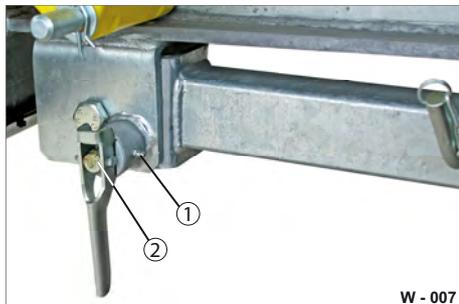

Fig. 7 Tilt feet lubrication points
- ▶ Clean the grease nipple (Fig. 7/1) with a clean, dry cloth.
- ▶ Remove objects such as blades of grass, branches, etc. from the bearing positions (Fig. 7/2).